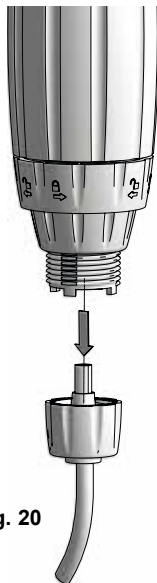

Fig. 20
- Pull downwards to remove the hose from the suction valve head (**Fig. 20**).